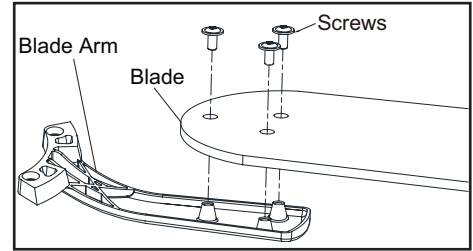

Figure 10
1. Attach blade to blade bracket using screws shown in Figure 10. Repeat for the two remaining screws.